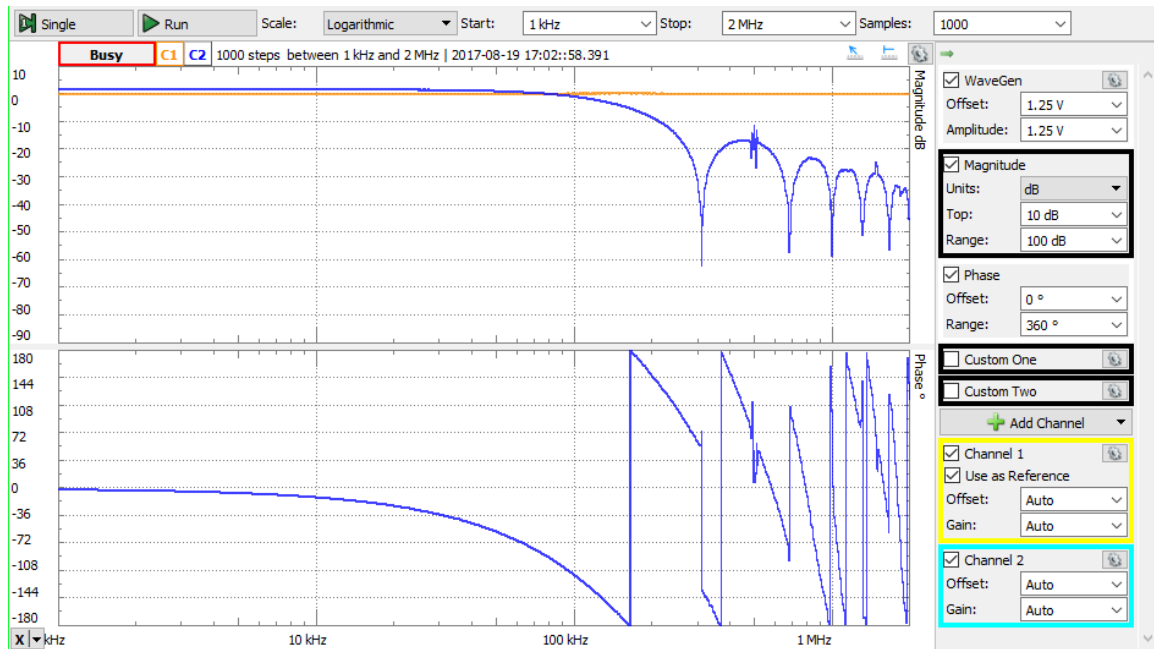

Figure 3: Measured response of implemented IIR filter. Frequency range is dependent on program speed.
overflows. Do not worry about fixing this other than by reducing the input amplitude; although explanation of the result is expected. Ultimately, the filter response should look something like in Figure 3; where the filter notch is shown at 300 kHz. The first zero in the filter's response is located at 112.61986° on the unit circle, corresponding to a notch in the filter at $\frac{112.61986^\circ}{180^\circ} \cdot \frac{f_s}{2}$, implying that the sampling frequency is approximately 1 MHz. It is not expected that groups reproduce the same sampling frequency and associated notch frequency as shown in Figure 3; therefore, a group's result should still have the same general shape but frequency shifted. The resulting sample rate and notch frequencies should be measured, verified, and reported, along with the methods to do so.
5. Figure 3 was produced with an Analog Discovery in *Network Analyzer* mode. The Analog ADALM2000 has similar functionality. If using a signal generator and oscilloscope, the notch frequency must be